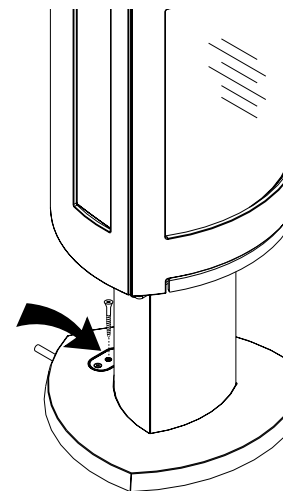

Figure 1.
**5. Remove Pallet Screw.** See fig. 1.